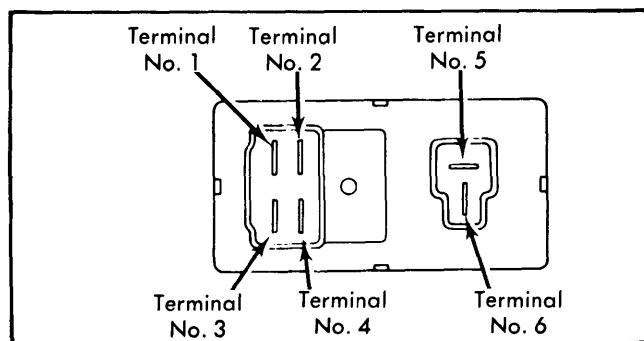

Fig. 5 Showing Relay Numbered Terminals
1) Detach coupler from relay. Using an ohmmeter, and referring to Fig. 5, check continuity according to the following: